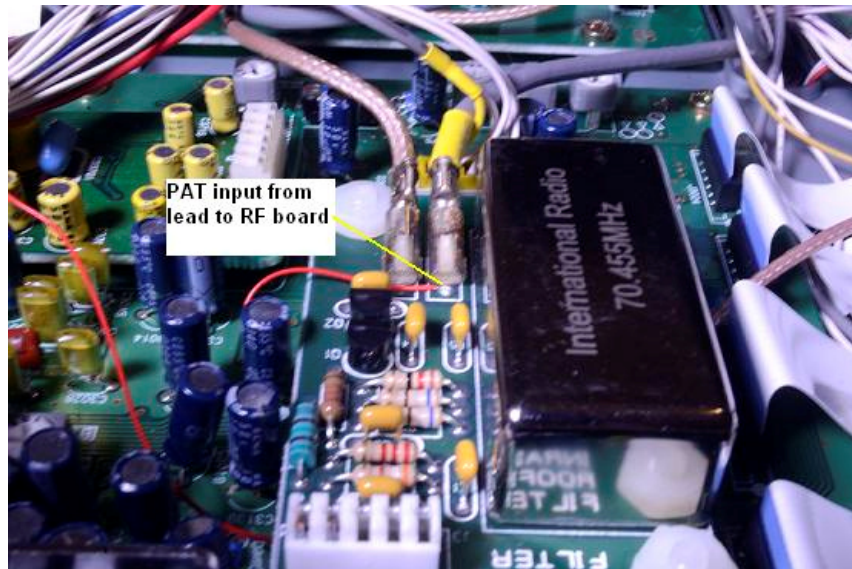

Fig 3 – PAT input connection from Inrad filter PCB
- 6 The IF signal at 70.455MHz is amplified on the RF board before passing to the IF board. If the Inrad filter PCB is fitted, then the PAT input can be tapped off the input connector of this board. Where there is no Inrad optional filter PCB, then the PAT input can be picked up at J2003 on the IF board. See Fig 3. Use an 80mm (max) length of fine wire to link PAT input and the tapping point – keep the wire as short as is reasonably possible.